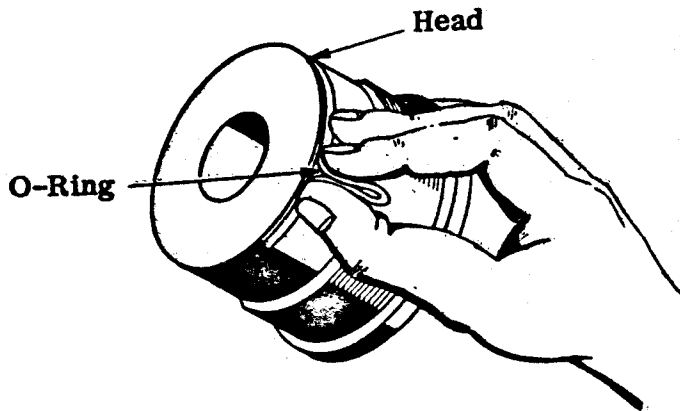

Figure E-3. O-Ring Removal
10. Work a slack section into the head seal static o-ring (No. 6) and pick it up out of the groove (Figure E-3). Lift the static back-up out of its groove with the needle-nose pliers.